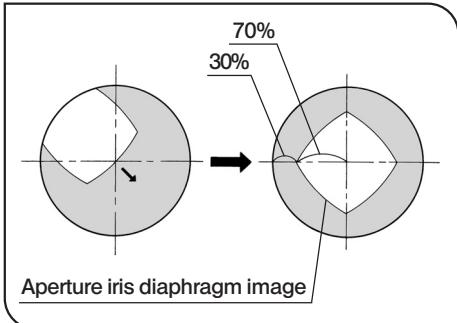

Fig. 32
3. Remove the eyepiece and, while looking into the eyepiece sleeve, touch the AS open/close switch so that the aperture iris diaphragm image is visible. (Fig. 32)